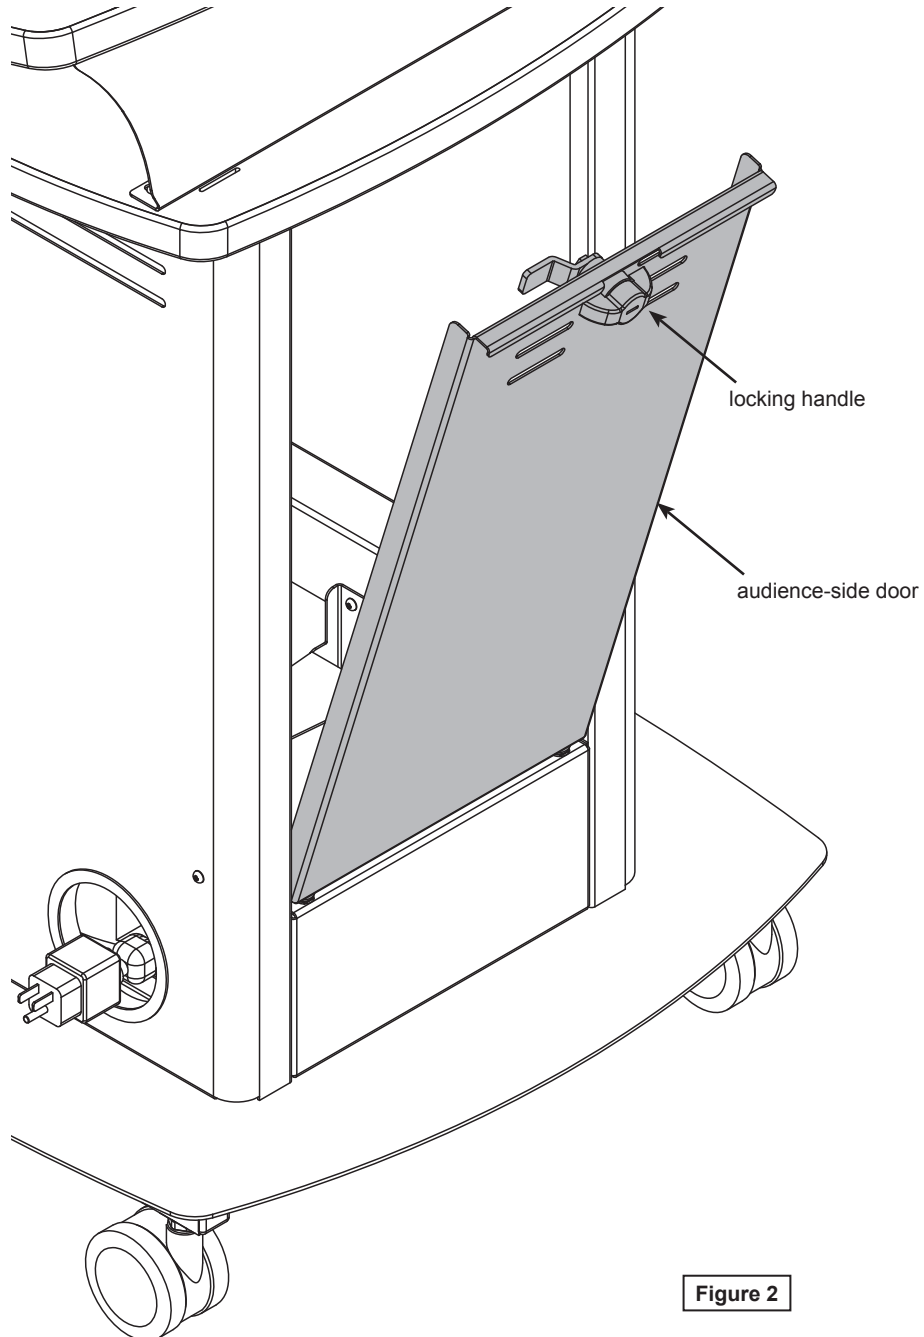

Figure 2
1. To remove the door, rotate the locking handle and lift out the door. **Figure 2.**